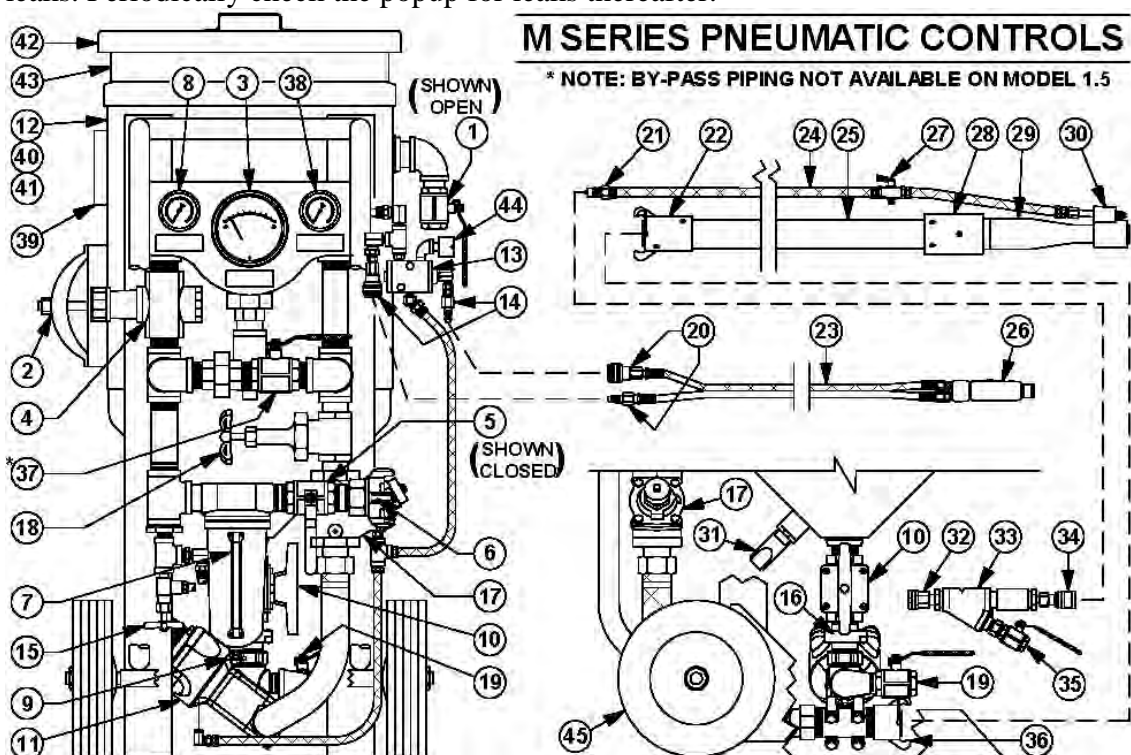

Figure 7.1 – Typical M Series Abrasive Blaster
7.1.2. Remove the vessel lid (#42) and screen (#43) to check that the popup (#41) has dropped open. This indicates that the blast vessel is depressurized. See Figure 7.1.